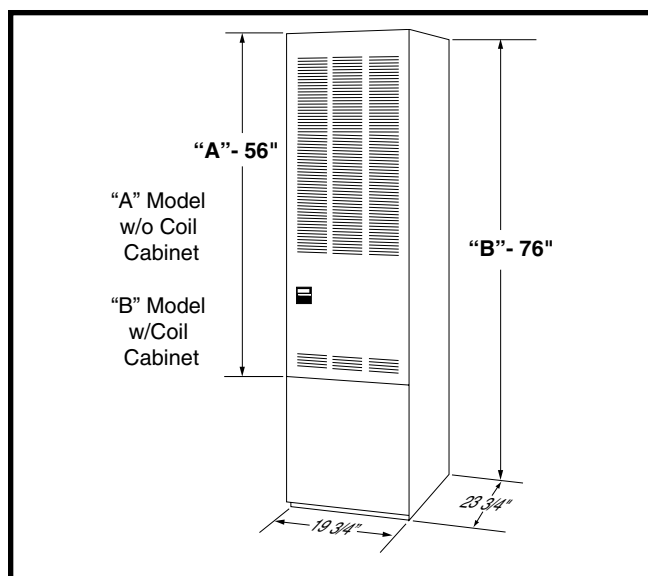

Figure 4. Overall Dimensions
- The dimensions of the room or alcove must be able to accommodate the overall size of the furnace and the installation clearances listed in Table 1 and in Figure 4 \(page 6\).